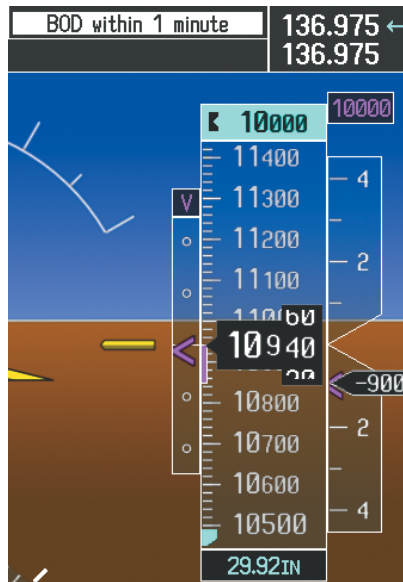

Figure 5-137 Approaching Bottom of Descent (BOD) at OPSHN Offset Waypoint
- 17) When the aircraft is one minute from the bottom of descent (BOD) it is annunciated as shown in Figure 5-137. Upon reaching the offset waypoint for OPSHN, the aircraft is at 10,000 feet.